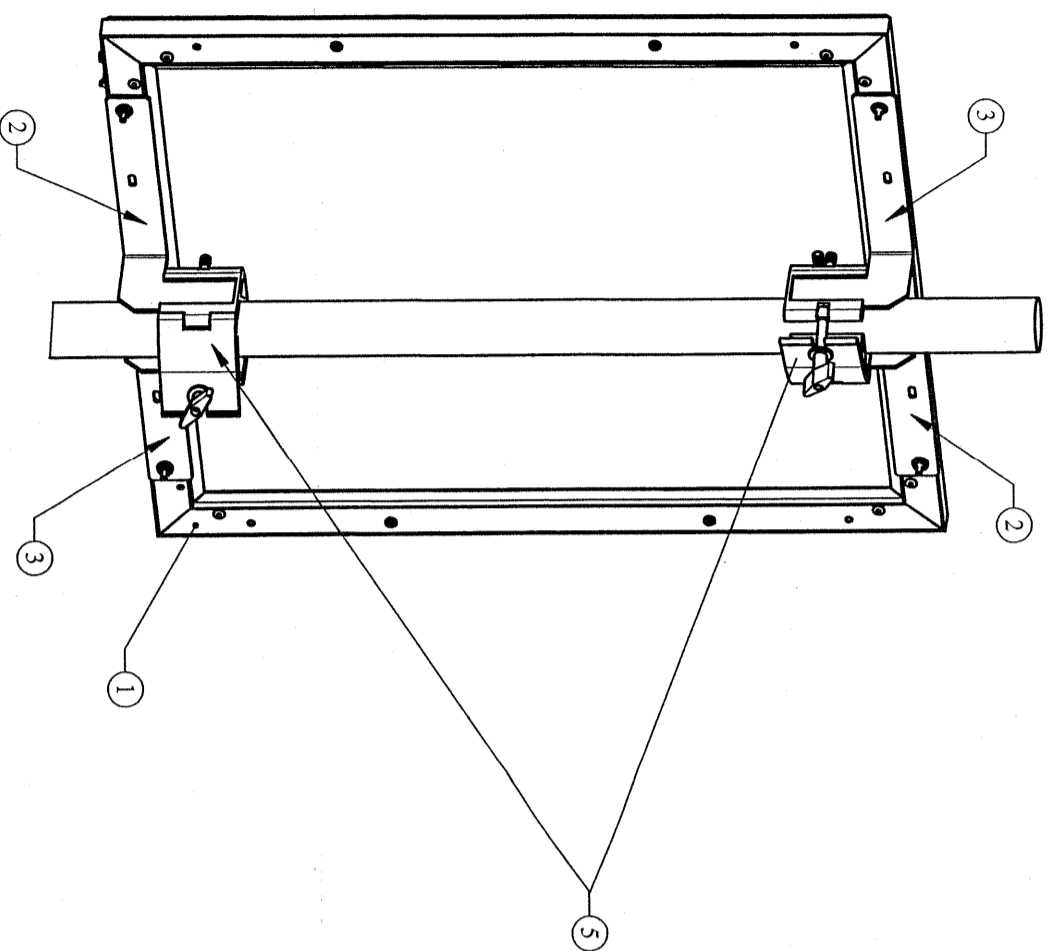

FIG.4
INSTALL (2) UPPER BRACKETS TO LIGHT PANEL WITH PROPER ORIENTATION (SEE FIG.4)